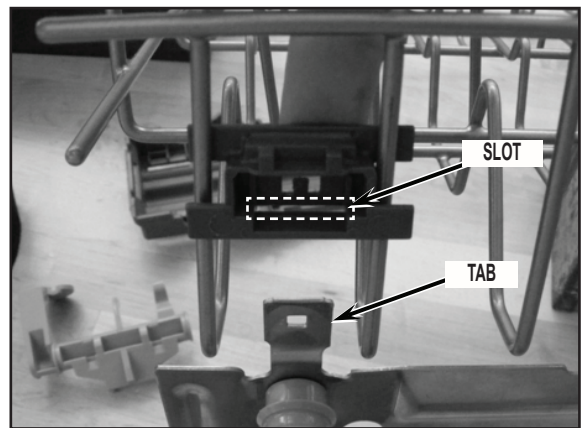

FIGURE 4
6. Once the clips are rotated to the position shown below, there will be two (2) slots [only one (1) is showing in this picture] that align with the vertical metal tabs on the adjuster arm. The clips need to be pushed down so that they seat over the vertical metal tabs. See *Figure 4*.